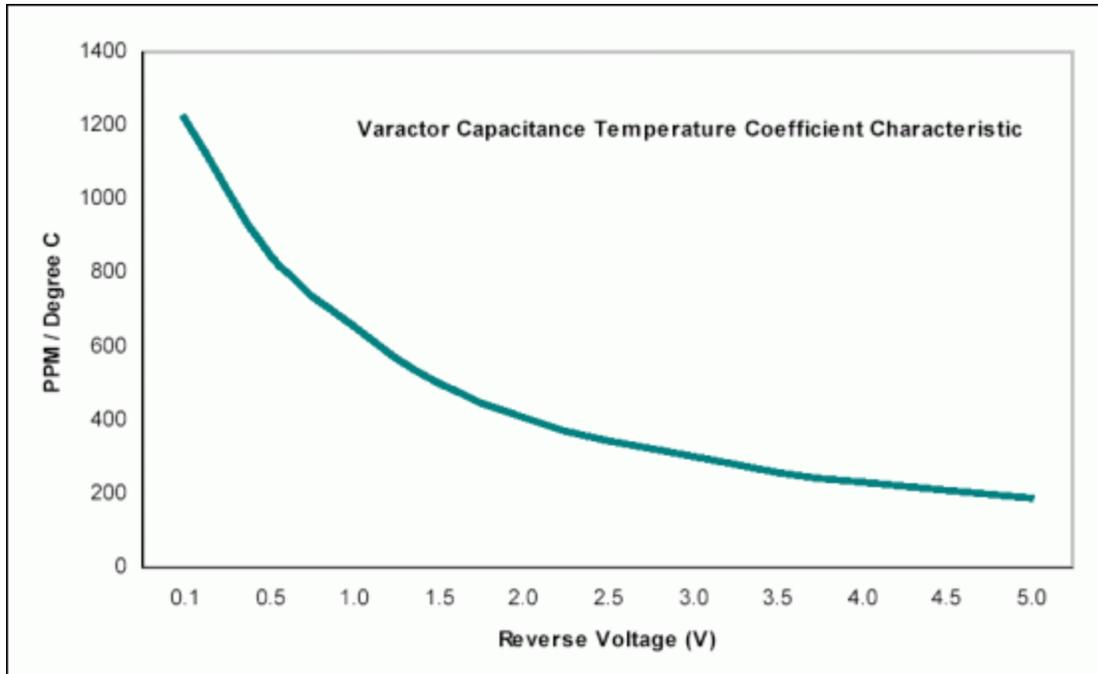

Figure 2. Typical varactor capacitance temperature coefficient characteristic.
Varactors exhibit a large positive temperature coefficient. The temperature coefficient also varies with the applied reverse voltage. The temperature coefficient can vary between 100 PPM/°C [parts per million (PPM) per degree Celsius (C)] to over 1200 PPM/°C. See **Figure 2** for a typical varactor capacitance temperature coefficient characteristic.